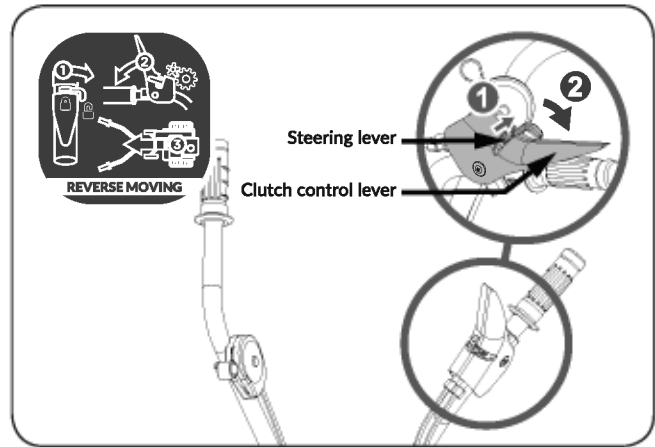

Figure 11a
- Move the steering lever to the right. (See **Figure 11a**, Illustration 1)
- Push down the clutch lever to engage the clutch (See **Figure 11a**, Illustration 2), then the tines will rotate reversely.